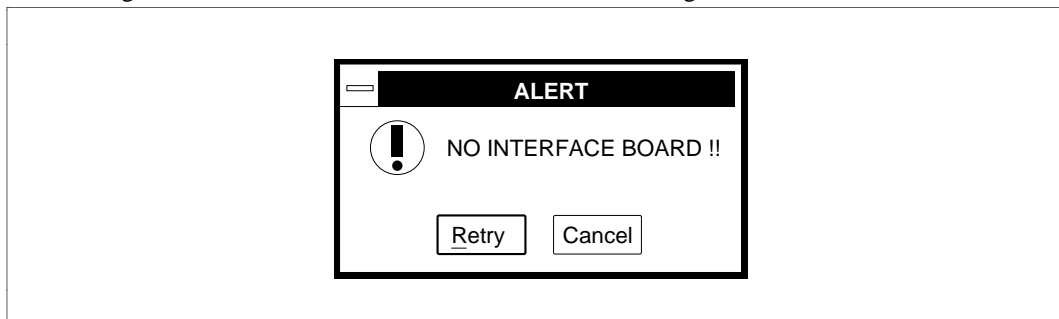

Figure 2-14 Emulator Status Confirmation Message Box
- (6) If the E7000PC emulator power is off, or if the IBM PC interface board or PC interface cable is not correctly connected, the message box shown in figure 2-14 is displayed. In this case, power on the E7000PC emulator and click the <Retry> button, or terminate the GUI-2600 by clicking the <Cancel> button and check the hardware settings.